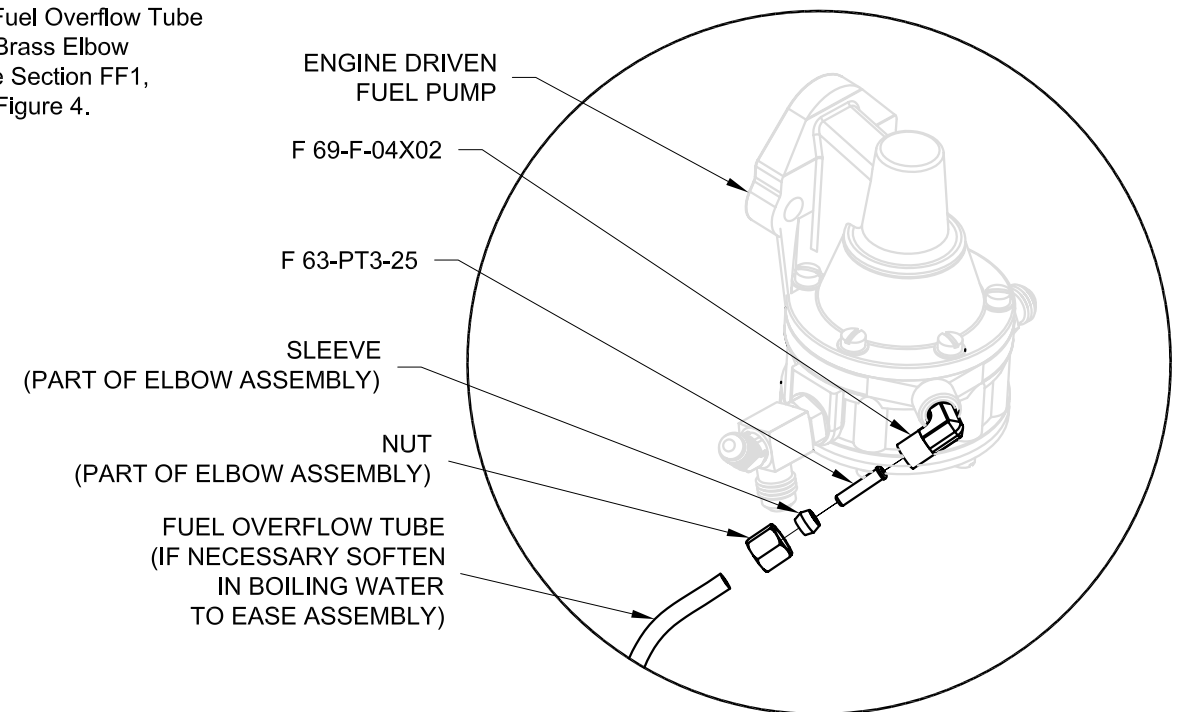

FIGURE 4: INSTALLING THE FUEL OVERFLOW TUBE
Step 7: Connect the Fuel Overflow Tube to the F 69-F-04X02 Brass Elbow (already installed, see Section FF1, Page 4) as shown in Figure 4.